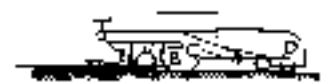

FIGURE B-12
The screed will then travel up to where line (AB) is parallel to (CD), Figure B-12.